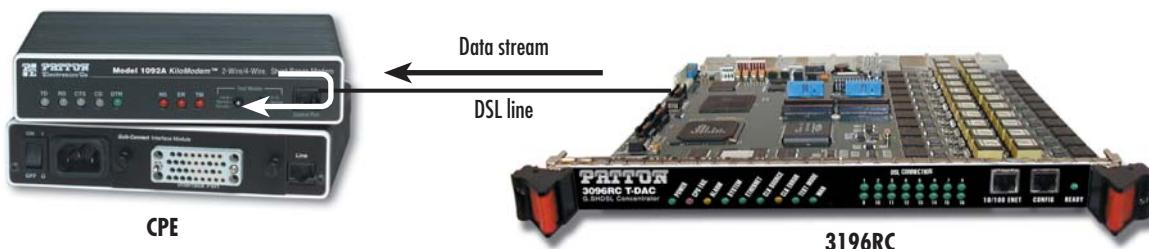

Figure 57. CPE line loopback
- LineLoop(10)—The CPE's G.SHDSL port is operating in line loopback mode as shown in figure 57.